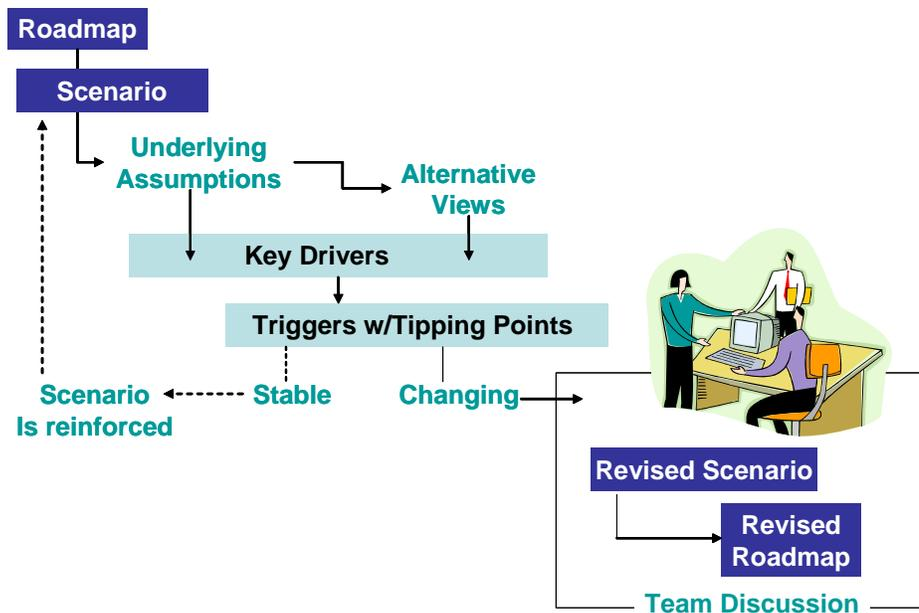

Figure 4: Linking Roadmapping to Scenarios – Developing a Monitoring & Updating Strategy Based on Key Drivers, Triggers and Tipping Points
- Updating the roadmap using triggers and scenarios.** Think about scenarios in which the roadmap you've developed is "true." Then think about the key elements that are driving your assumptions. These are triggers. Triggers are the data elements that you will use to track the roadmap over time. Triggers must have a set point or tipping point. When reality begins to approach or exceed these tipping points, you must reconsider your roadmap – either the elements are wrong, the timing is wrong, the path forward is wrong...or some combination of the above. By using triggers and tipping points to initiate discussion and possible revision to the roadmap, we are focusing resources on tracking the critical drivers, rather than trying to monitor and update every aspect of the roadmap (See Figure 4). This is particularly important when we try to identify the experts who are most appropriate to monitor the assumptions. The challenge is to empower these experts with knowledge